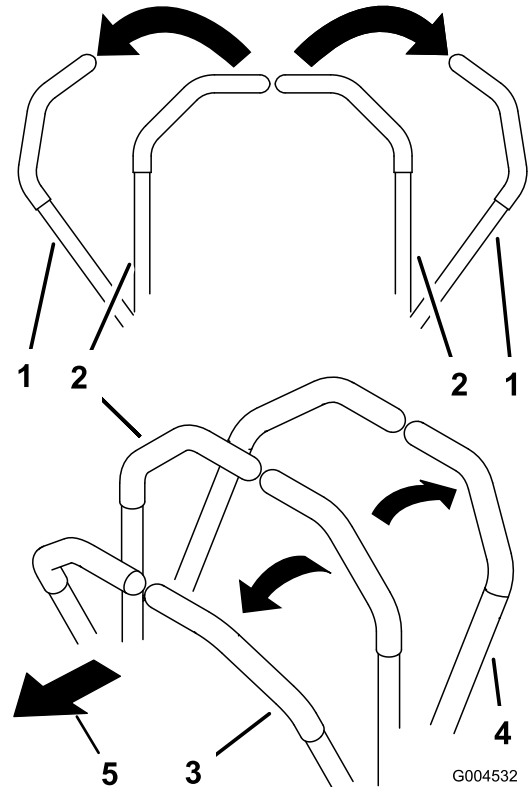
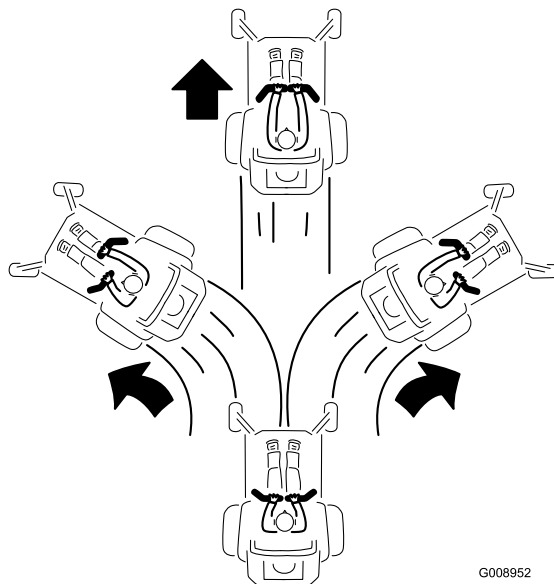

Figure 17
Figure 19
2. To go forward, slowly push the motion control levers forward (Figure 17 and Figure 19).
To go straight, apply equal pressure to both motion control levers (Figure 17).
To turn, release pressure on the motion control lever toward the direction you want to turn (Figure 17).